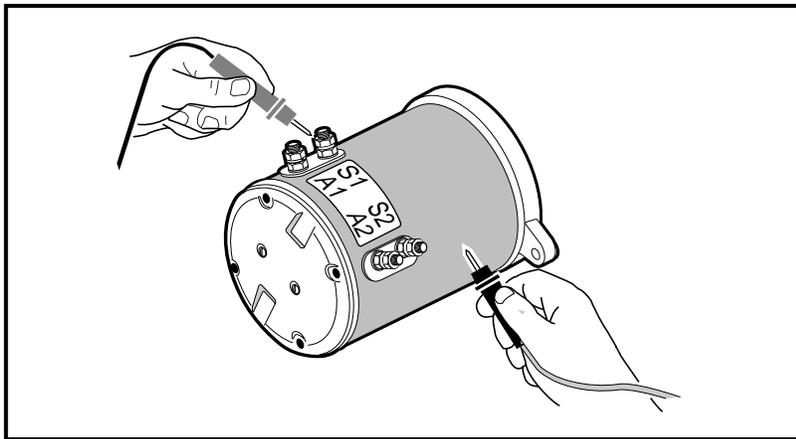

Figure 15-2 Test for Motor Short Circuits
2. Using a multimeter set to ohms, place the black (-) probe on the motor housing (it may be necessary to scrape the paint from the area to insure a sound connection). Place the red (+) probe on the A1, A2, S1, and S2 terminals respectively (**Figure 15-2, Page 15-2**). Multimeter should indicate no continuity. If the readings are incorrect, the motor will need to be removed from the vehicle and repaired by a qualified technician. **See Motor Removal.**
1. Using two wrenches to prevent the post from turning, disconnect the wires from the A1 and A2 terminals. Using a multimeter set to ohms, place red (+) probe on the A1 terminal and the black (-) probe on the A2 terminal (**Figure 15-2, Page 15-2**). The reading should be continuity. If the reading is incorrect, a possible open or poor contact in a brush assembly and/or open armature windings may be the cause. The motor will need to be removed from the vehicle and repaired by a qualified technician. **See Motor Removal.**
on the S2 terminal (**Figure 15-2, Page 15-2**). The reading should be continuity. If the reading is incorrect, there may be an open field coil or bad connections at terminals. Remove motor from vehicle and send to a qualified technician for repair. **See Motor Removal.**